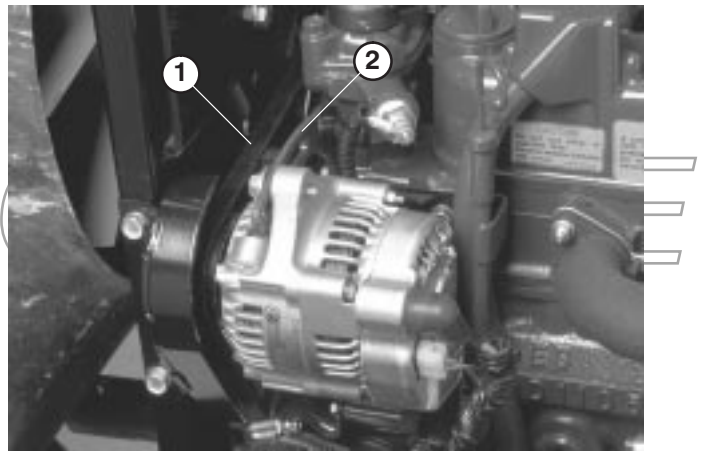

Figure 57
2. Check tension by depressing belt (Fig. 57) midway between alternator and crankshaft pulleys with 22 lb. of force. Belt should deflect 7/16 in. If deflection is incorrect, proceed to step 3. If correct, continue operation.
- Loosen bolt securing brace to engine (Fig. 57) and bolt securing alternator to brace.